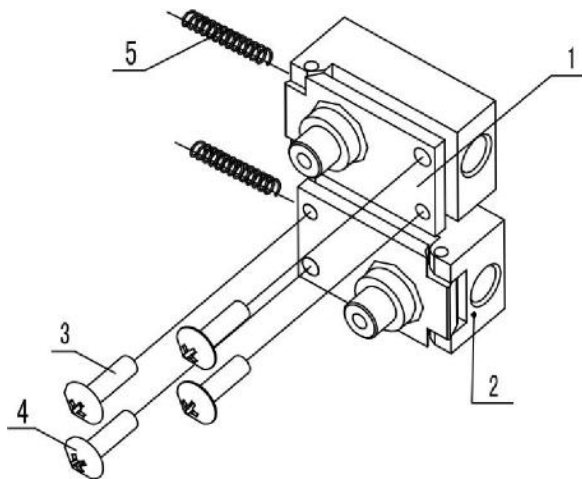

Figure 11. (1) Driven Wheel Seat (Adjusting Block), (2) Driven Wheel Seat (Adjusting Block), (3)/(4) Adjusting Screws, (5) Springs
8. If the sealing belt is running off the guide wheels, make adjustments to the screws that are found on the driven wheel seat (Figure 11, Item #1 & 2)